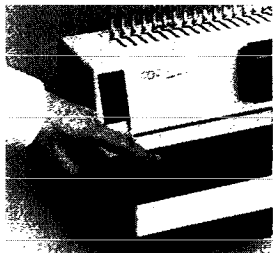

Figure 4.1
1. Depress the blue Paper Edge Guide Control Button (Figure 4.1) and slightly move the Paper Edge Guide sideways until it clicks into place in its "Home" position. The Edge Guide is in the "Home" position when the words "Paper" or "Cover" align with the 11" notation on the Cerlox Storage Bin Cover (as shown in Figure 4.1).